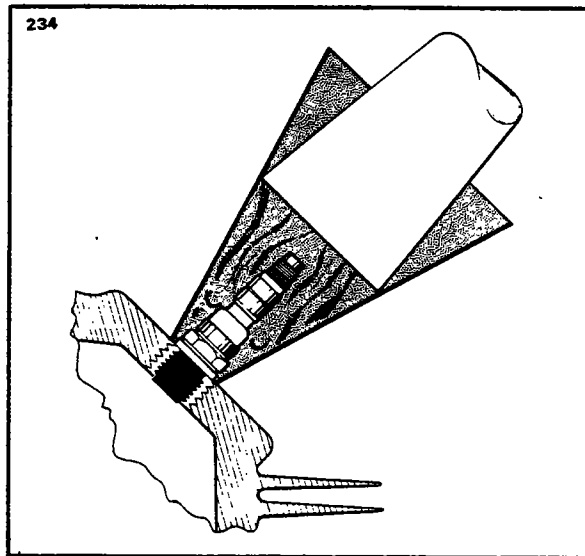

Figure 8A-31. Removing Spark Plug Frozen to Bushing
d. Removal of seized spark plugs in the cylinder may be accomplished by application of liquid carbon dioxide by a Conical metal funnel adapter with a hole at the apex just large enough to accommodate the funnel of a CO₂ bottle. (Refer to Figure 8A-31.) When a seized spark plug cannot be removed by normal means, the funnel adapter is placed over and around the spark plug. Place the funnel of the CO₂ bottle inside the funnel adapter and release the carbon dioxide to chill and contract the spark plug. Break the spark plug loose with a wrench. A warm cylinder head at the time the carbon dioxide is applied will aid in the removal of an excessively seized plug.